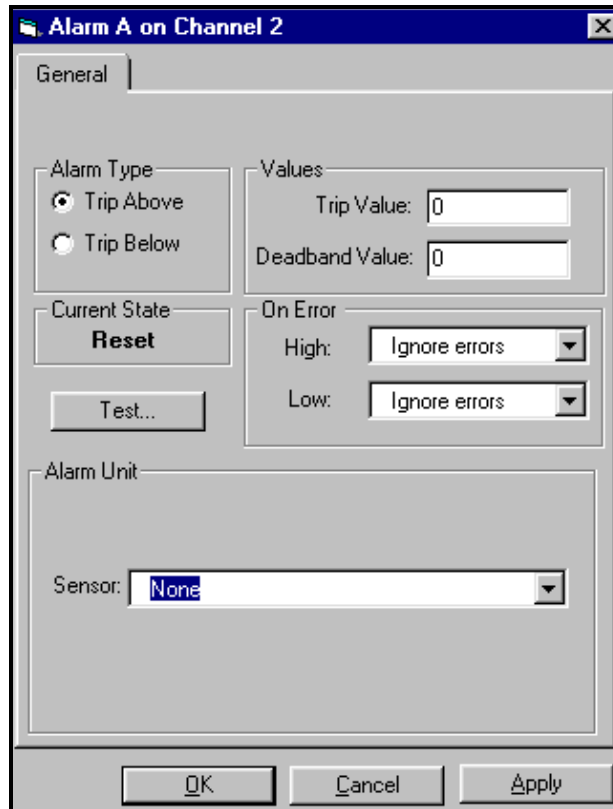

Figure 4-3: Alarm Programming Window
2. From the channel menu, click on the “*Alarms*” option, and then on “*Alarm A*” or “*Alarm B*.” The Alarm window appears, as shown in Figure 4-3 below.